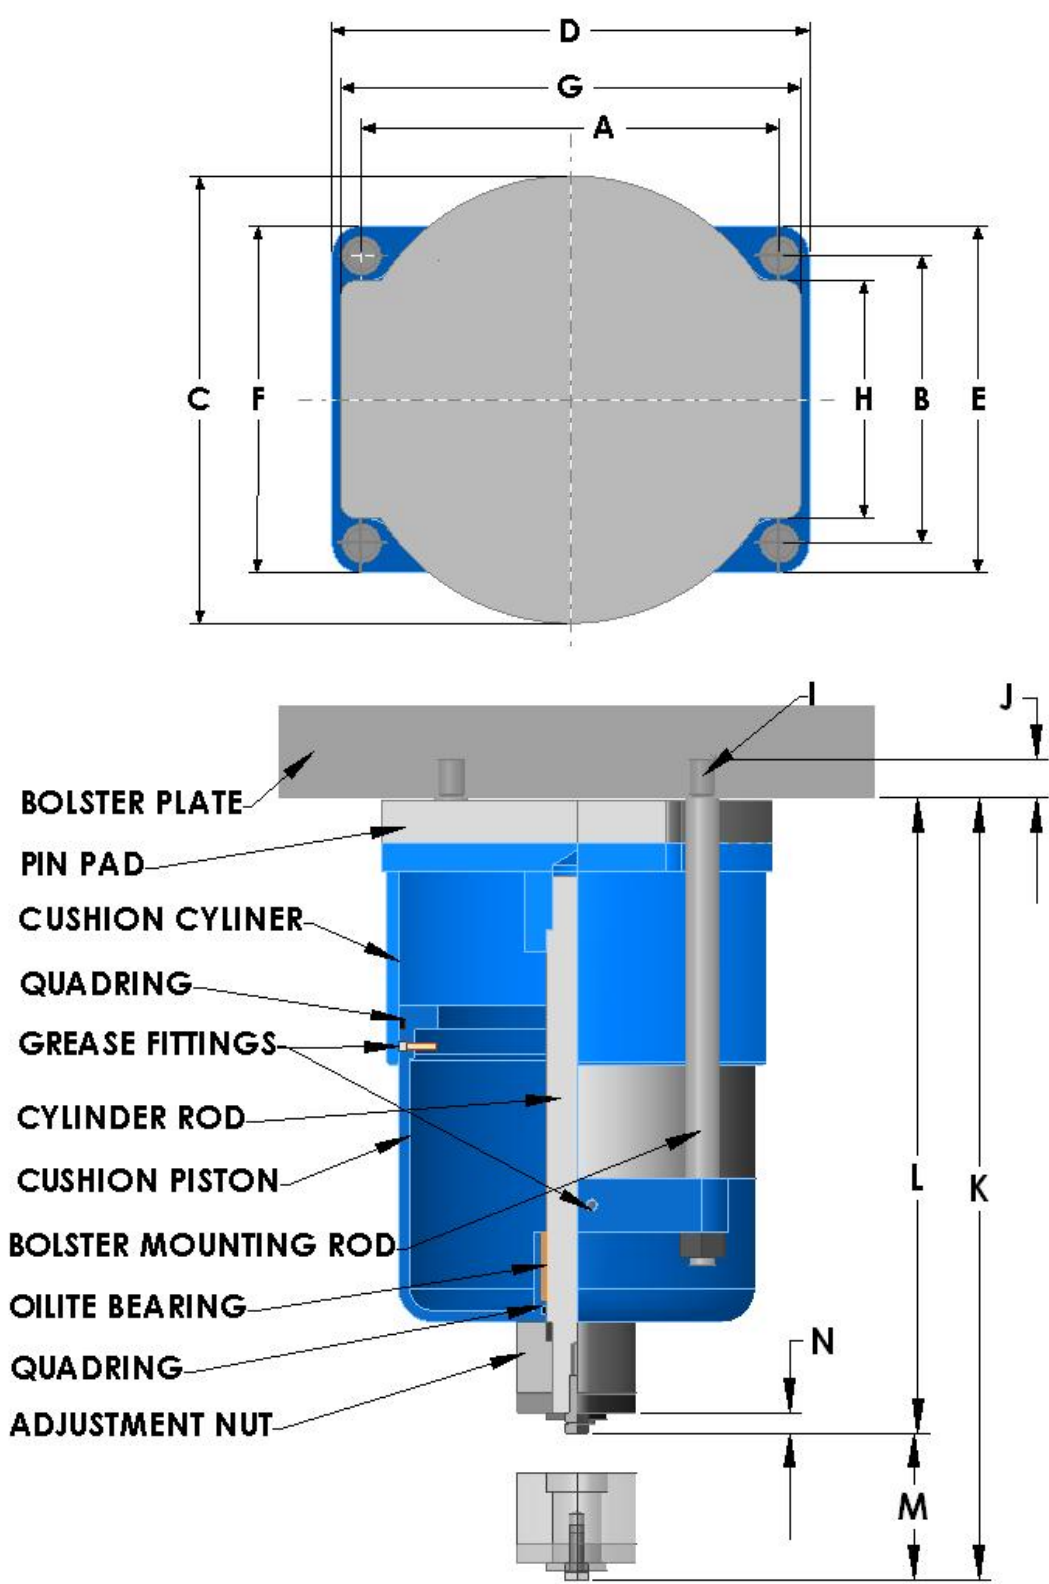

Fig. 4 Bolster plate mounted Model D cushion.
(1) The die cushion should be mounted to the bolster plate so that it is centrally located with reference to the opening in the press bed (See Fig. 4). To accomplish this it is advisable to scribe the press bed opening on the underside of the bolster plate before removing it from the press. This outline will locate the relative position for attaching the die cushion,